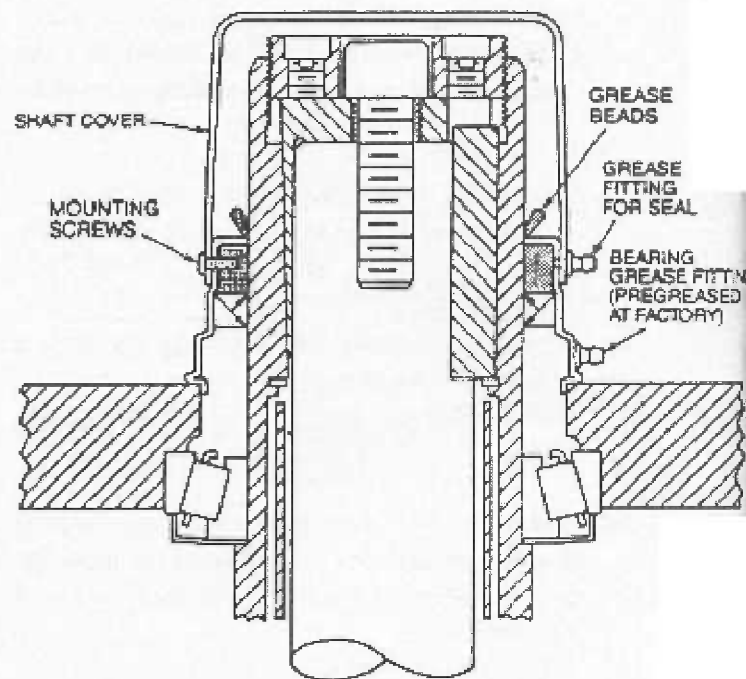

Figure 13 — Installing the low-speed shaft cover
- Refer to Fig. 13. Check to be sure the lower bearing assembly is recessed into the housing. Pack the bearing cavity with NLGI #2 bearing grease.
- Refer to Fig. 13. Pump NLGI #2 bearing grease into the upper fitting on the low-speed seal cage while rotating the high speed shaft until a uniform bead of grease appears between the seal cage and the hollow shaft. Place the low speed shaft cover over the seal-cage and secure it with the three sheet-metal screws provided.